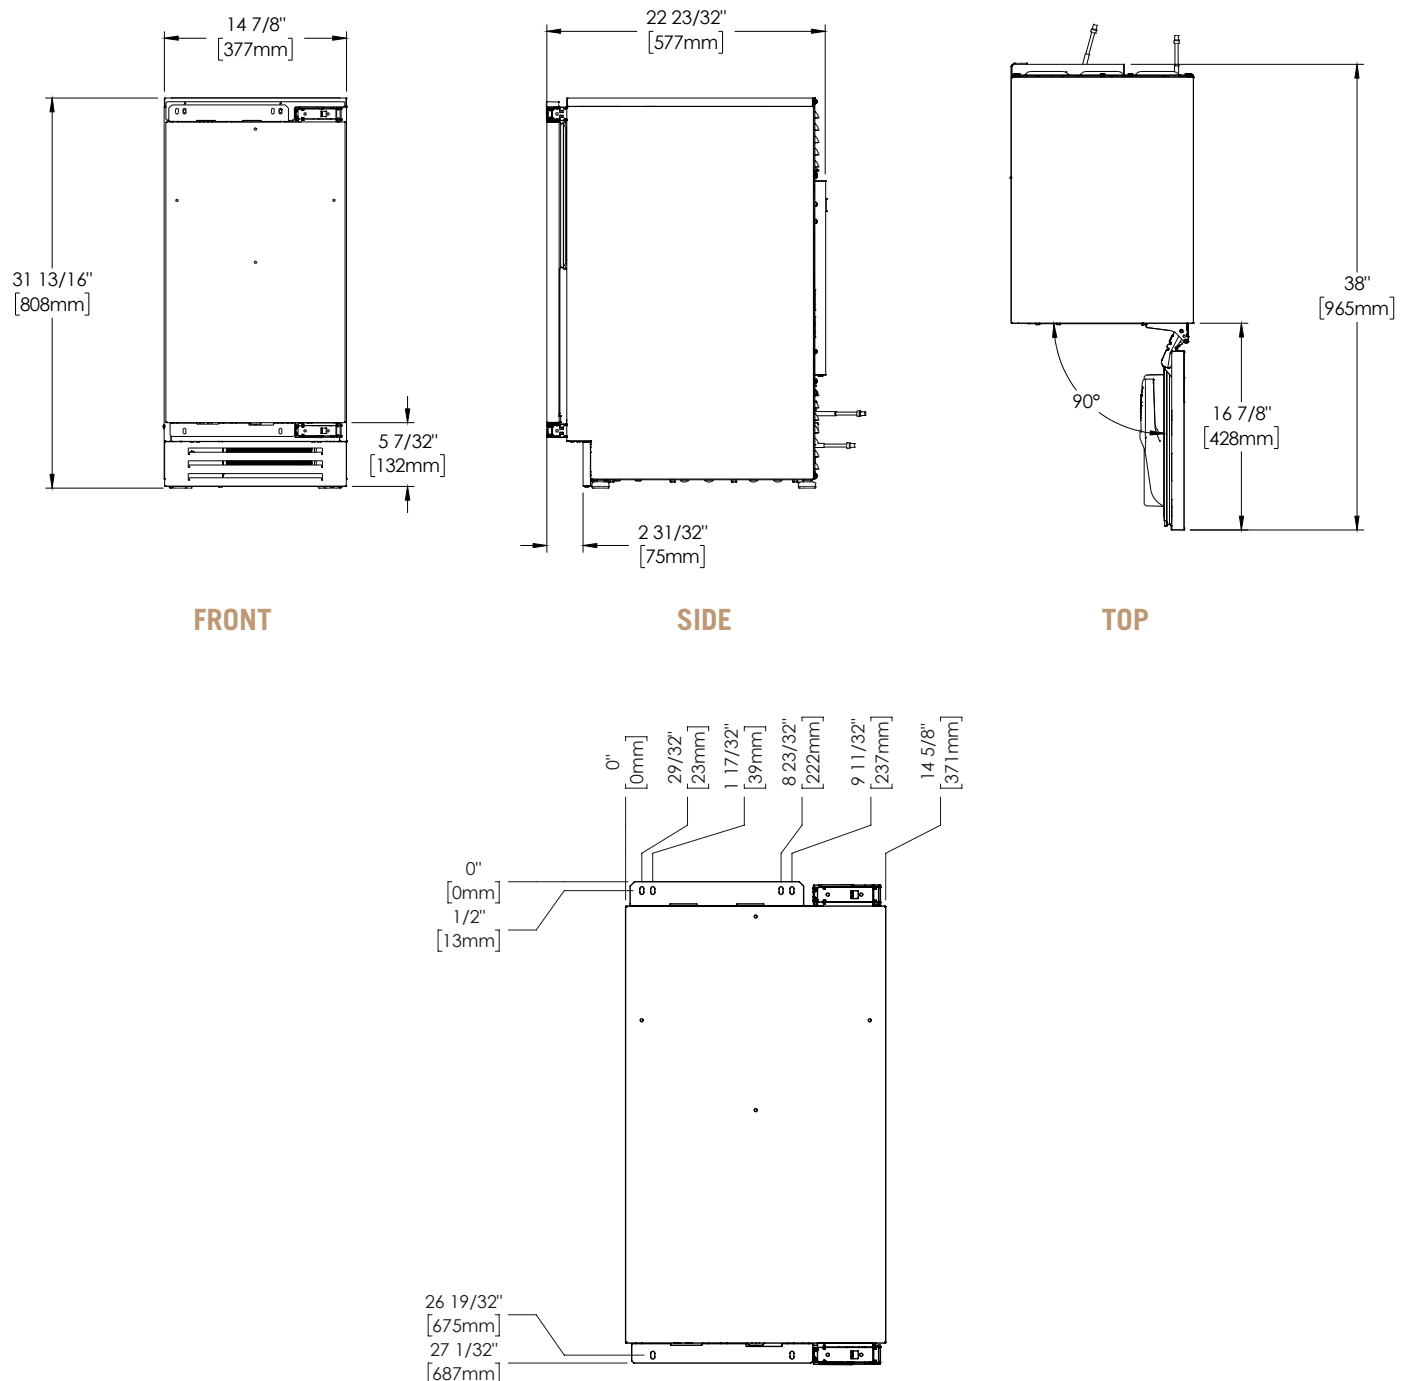

FIG. 1. Door front bracket hole and pre-drilled hole locations and measurements
- Doors have pre-drilled holes to assist overlay panel installation. See fig. 1.